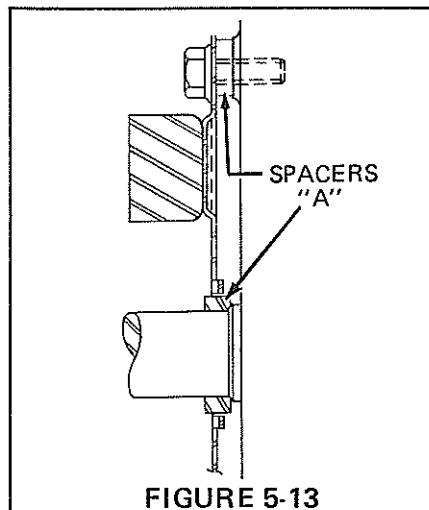

FIGURE 5-13
On Briggs and Stratton engines the coil assembly must be centered around pilot spacer (A), Figure 5-13. Center by feel. When mounting the assembly, a spacer must be used at all four capscrew locations.